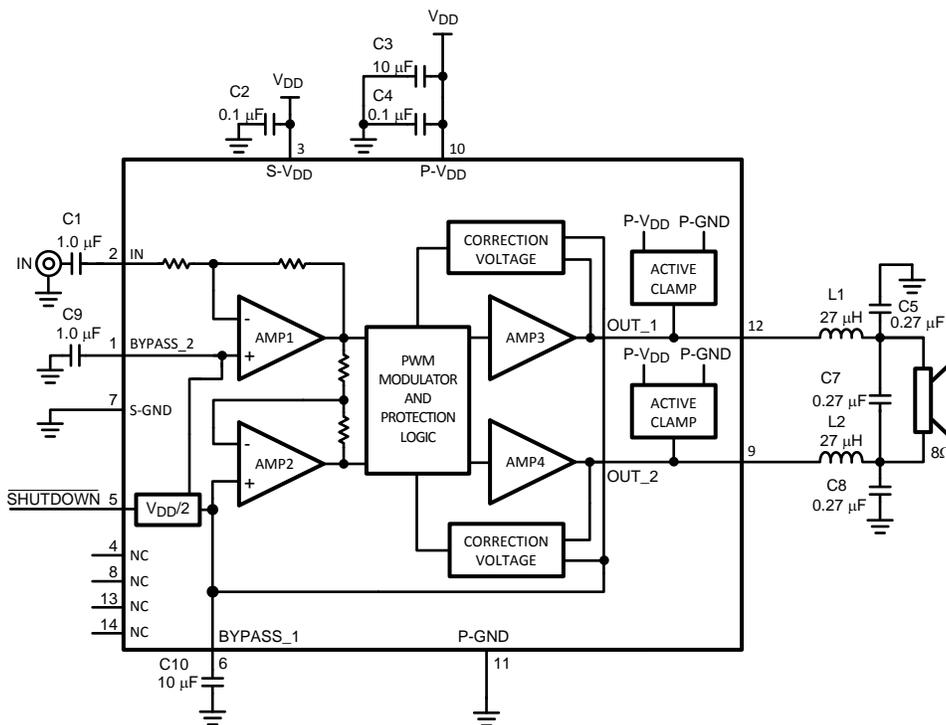

Figure 1. Typical Audio Amplifier Application Circuit
- (1) All voltages are measured with respect to the GND pin unless otherwise specified.
- (2) Absolute Maximum Ratings indicate limits beyond which damage to the device may occur. Operating Ratings indicate conditions for which the device is functional, but do not guarantee specific performance limits. Electrical Characteristics state DC and AC electrical specifications under particular test conditions which specify performance limits. This assumes that the device is within the Operating Ratings. Specifications are not guaranteed for parameters where no limit is given, however, the typical value is a good indication of device performance.
- (3) The maximum power dissipation must be derated at elevated temperatures and is dictated by T_{JMAX} , θ_{JA} , and the ambient temperature T_A . The maximum allowable power dissipation is $P_{DMAX} = (T_{JMAX} - T_A)/\theta_{JA}$ or the number given in Absolute Maximum Ratings, whichever is lower. For the LM4680 typical application (shown in Figure 1) with $V_{DD} = 12V$, $R_L = 8\Omega$ stereo operation, the total power dissipation is 900mW. $\theta_{JA} = 40^\circ\text{C/W}$
- (4) Human body model, 100pF discharged through a 1.5k Ω resistor.
- (5) Machine model, 220pF – 240pF discharged through all pins.
The following specifications apply for the circuit shown in Figure 1 operating with $V_{DD} = 12V$, $R_L = 8\Omega$, and $f_{IN} = 1kHz$, unless otherwise specified. Limits apply for $T_A = 25^\circ C$.